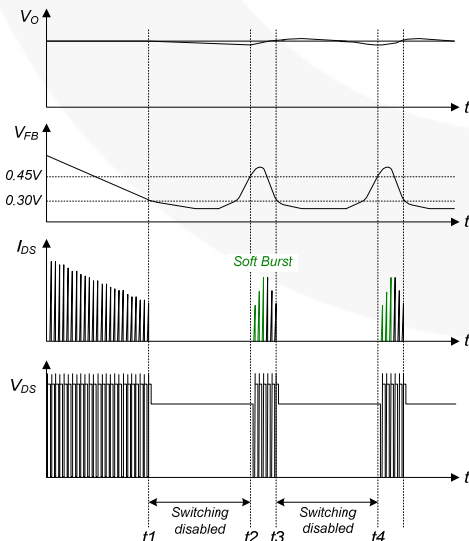

**Figure 21. Abnormal Over-Current Protection**
**4.2 Abnormal Over-Current Protection (AOCP):** When the secondary rectifier diodes or the transformer pins are shorted, a steep current with extremely high di/dt can flow through the SenseFET during the minimum turn-on time. Even though the FSL138MRT has overload protection, it is not enough to protect the FSL138MRT in that abnormal case; due to the severe current stress imposed on the SenseFET until OLP is triggered. The internal AOCP circuit is shown in Figure 21. When the gate turn-on signal is applied to the power SenseFET, the AOCP block is enabled and monitors the current through the sensing resistor. The voltage across the resistor is compared with a preset AOCP level. If the sensing resistor voltage is greater than the AOCP level, the set signal is applied to the S-R latch, resulting in the shutdown of the SMPS.